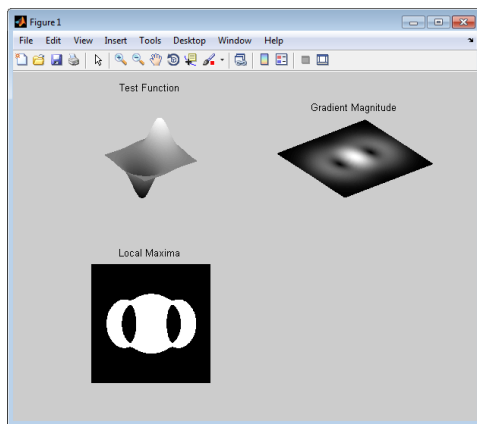

Figure 33: Gradient magnitude thresholding
7. **[Run]** the model in “Normal” Simulation mode. While the simulation is running, double click the **Threshold** block. Modify its value and see its impact on local maxima detection (**Figure 33**).